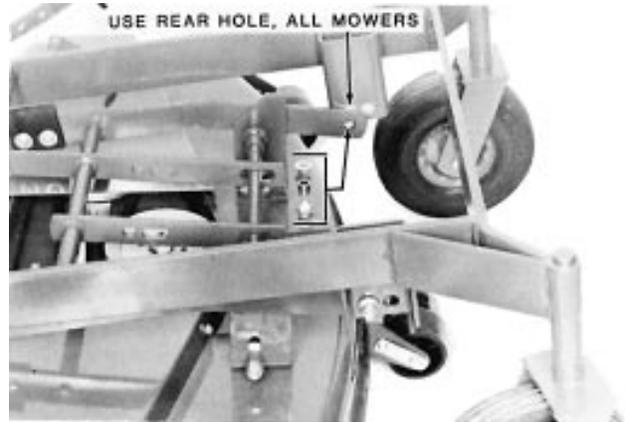

**Figure 12**
19. Slide a  $\frac{3}{32}$ " x 1" cotter pin into the hole at the bend of one of the L-shaped hanger rods and slide a  $\frac{1}{2}$ " washer on the rod in front of the cotter pin (Fig. 12).
20. Slide a gage wheel onto the hanger rod and push the end of the rod through the gage wheel arm (Fig. 12).
21. Secure the hanger rod to the gage wheel arm with a  $\frac{3}{8}$ " washer and a  $1\text{-}\frac{7}{8}$ " hairpin cotter (Fig. 12).
22. Slide the top of the hanger rod through the appropriate hole in the pivot frame and secure it with a  $\frac{1}{2}$ " washer and a  $\frac{1}{2}$ "-20 locknut (Fig. 12).